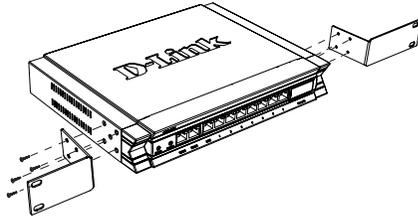

Figure 3. Attaching Rack Mount Brackets
1. Attach the mounting brackets to each side of the chassis as shown in Figure 3 and secure them with the provided screws.